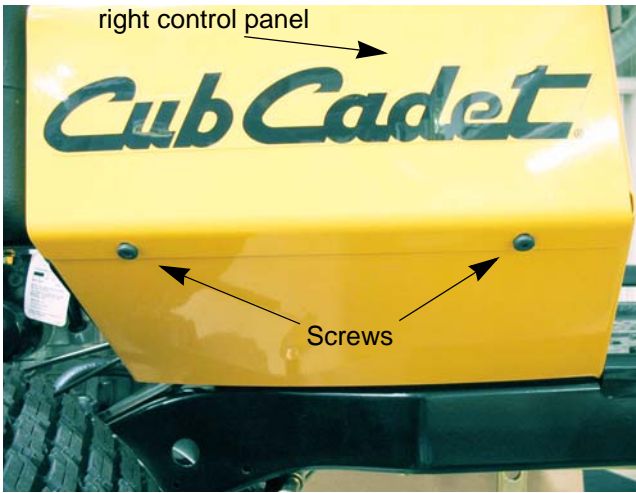

Figure 4.16
2. Remove the two screws from the underside of the right control panel using a T-30 torx driver. See Figure 4.16.